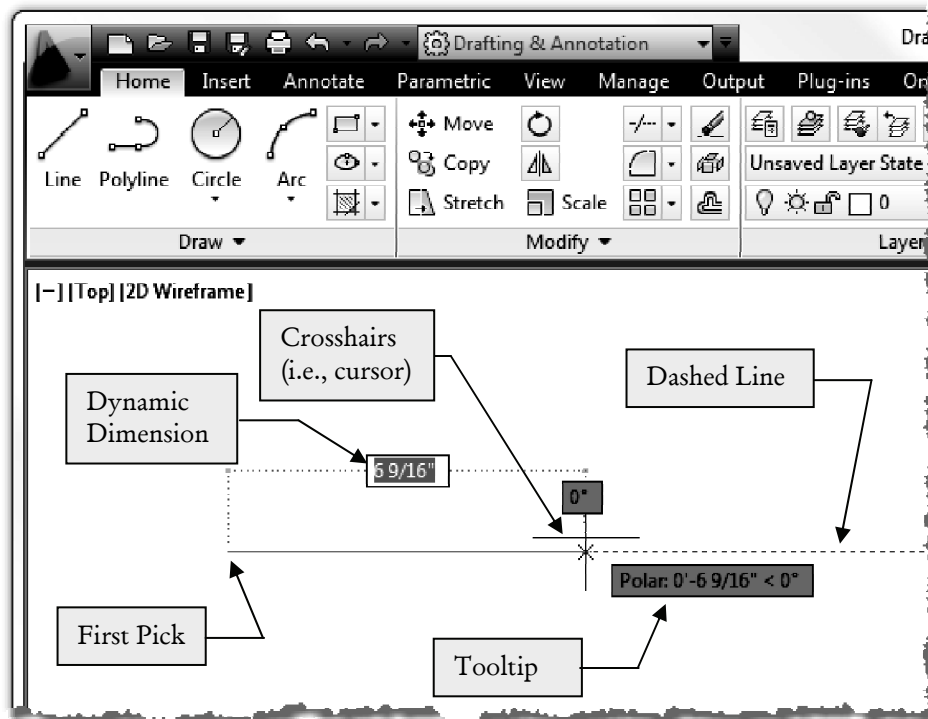

FIGURE 2-1.10 Drawing a line with the help of Polar Tracking
16. Start moving the mouse towards the right, and generally horizontal until you see a dashed reference line (extending off the screen in the direction you want to draw the line) appear on the screen as in Figure 2-1.10.